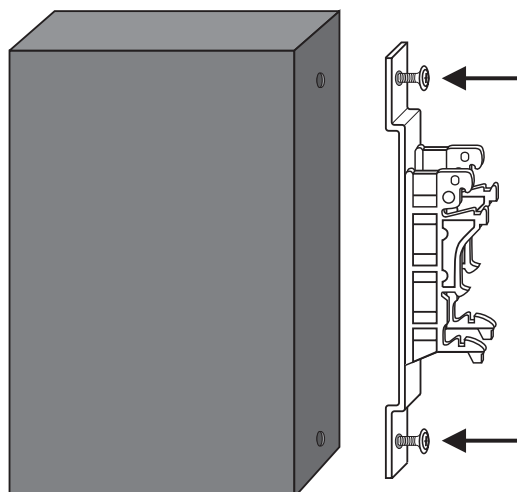

Figure 7: Mounting the carrier rail mounting
- Figure 7: Mounting the carrier rail mounting 18